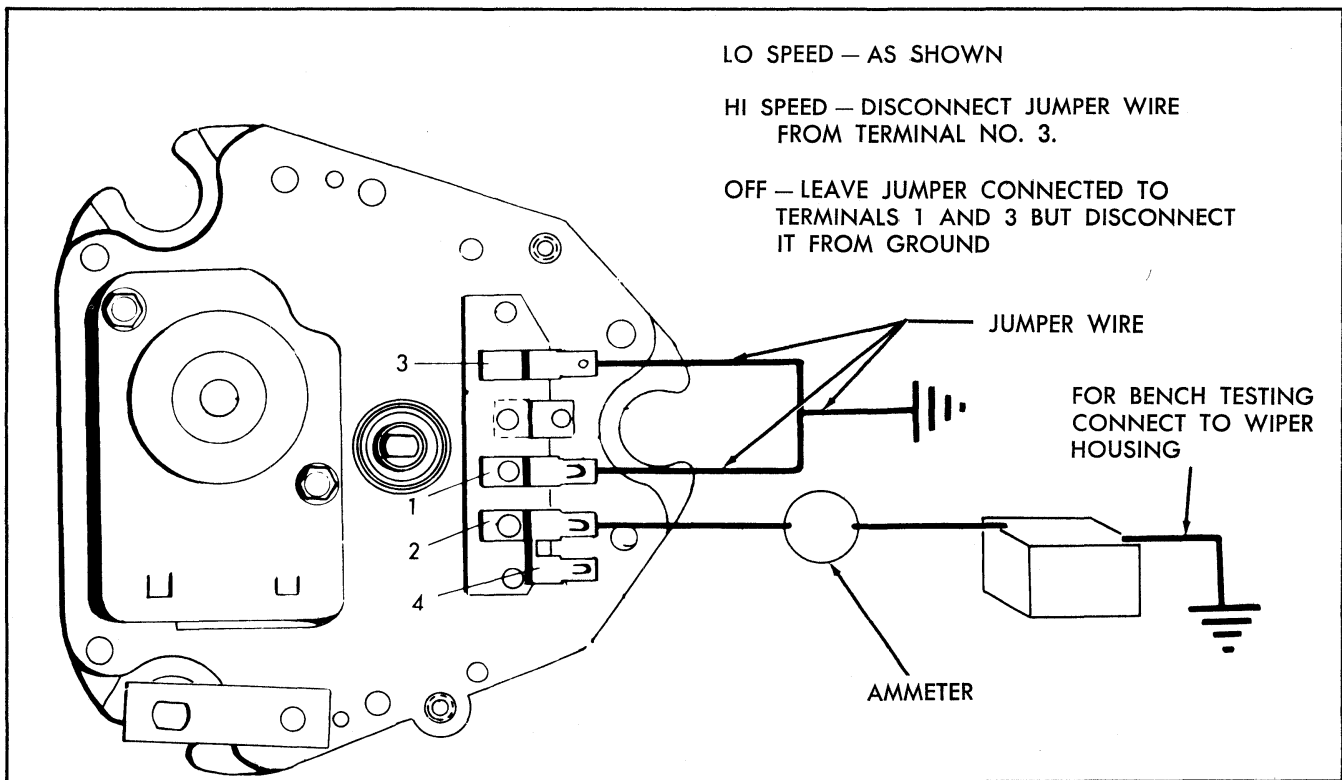

Fig. 11-100 Connections for Testing
Fig. 11-100 illustrates the method of connecting leads to the wiper for either bench operation or to run wiper independently of dash switch and car wiring when installed in car.
2. With ignition switch on, check for 12 volts at harness terminal that connects to number (2) terminal (Fig. 11-100).
3. To determine if dash switch or car wiring are at fault, disconnect harness from wiper motor and try operating wiper as shown in Fig. 11-100. If wiper fails to operate, remove body parts as required, disconnect transmissions from wiper crank arm and recheck wiper operation. If wiper still fails to perform correctly, remove wiper from car and check wiper according to procedure under "Wiper Detached From Car."
2. Disconnect wiring harness from wiper motor and try operating wiper independently of dash switch as shown in Fig. 11-100.
that wiper operation be checked according to the instructions shown in Fig. 11-100.